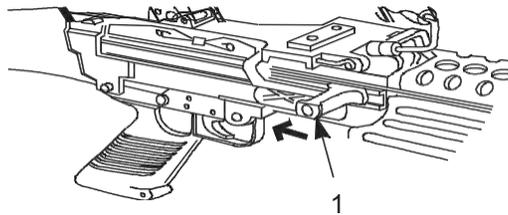

Figure 7. Charging Weapon in Preparation of Trigger Pull Test.
2. Charge weapon by pulling cocking handle (Figure 7 Item 1) to rear and place safety in FIRE position (red band visible).